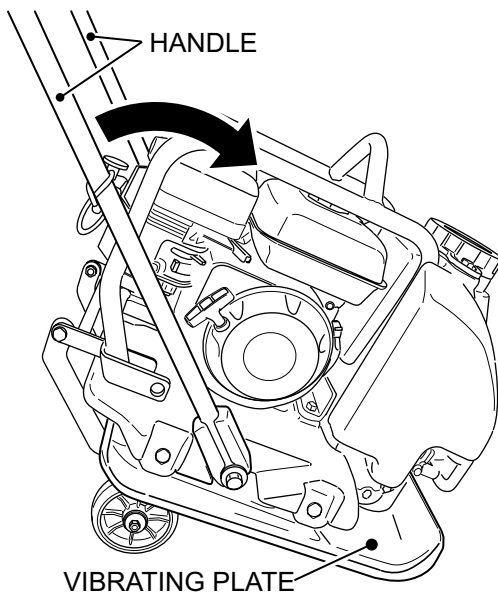

Figure 14. Tilting the Compactor
1. Push plate compactor handle upward/forward tilting the compactor until the vibrating plate (Figure 14) touches the ground.